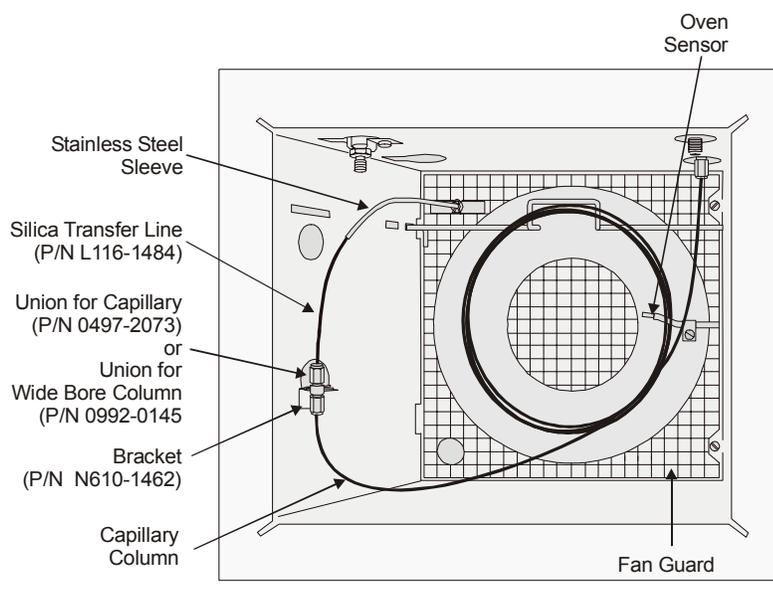

Figure 9 Installation of the Transfer Line through the Rear Panel
back of the oven outer wall should be visible. See *Figure 9*.
11. Gently bend the exposed end of the stainless steel sleeve inside the GC oven so that it points toward the oven floor. See *Figure 9*.
2. Disconnect the 1/16 inch carrier gas supply line to the injector from the rear panel of the GC and pass it through the injector cut-out into the oven. Uncoil and bend the supply line so that it can be connected to the bottom of the 0.8-mm glass lined union. Connect the tube to the union using either a graphitized Vespel ferrule (P/N 0497-2394) or a graphite ferrule supplied with the union (not for ECD or MS). See *Figure 9*.